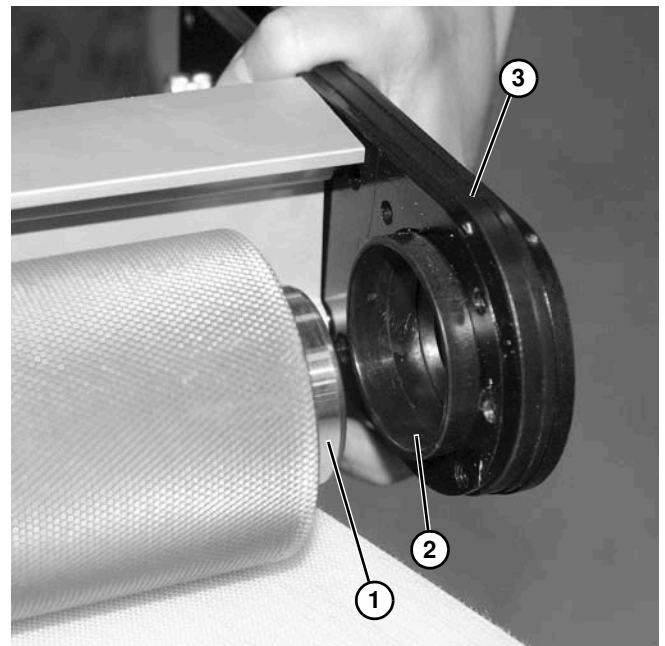

Figure 127
15. On opposite end, remove drive spindle assembly with spindle bearing (**Figure 127, item 1**) from recessed pocket (**Figure 127, item 2**) on bearing housing (**Figure 127, item 3**).